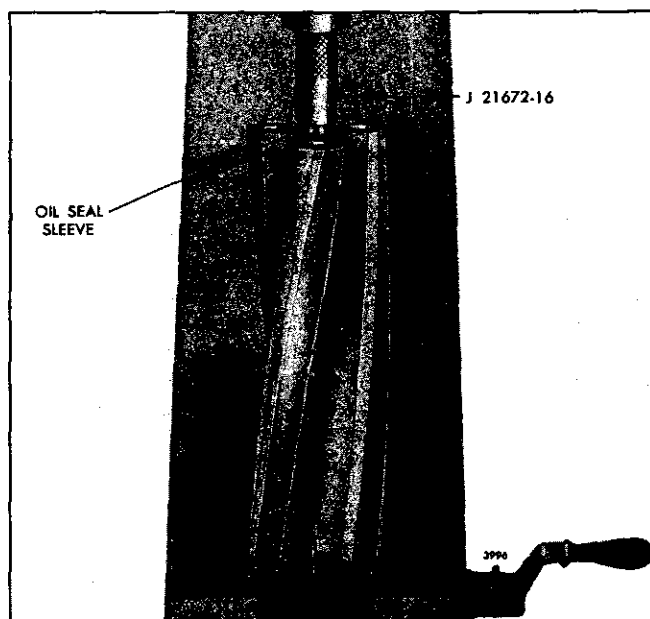

Fig. 12 – Installing Oil Seal Sleeve on Rotor Shaft
- a. Support the blower rotor, gear end up, on the bed of an arbor press as shown in Fig. 12.